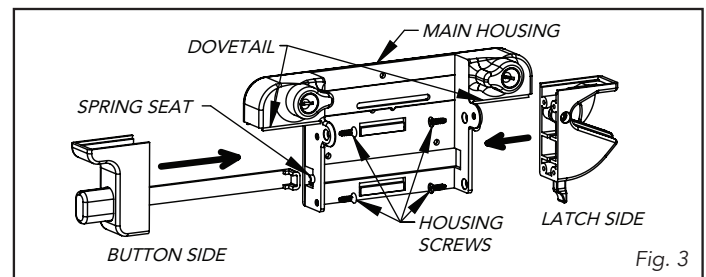
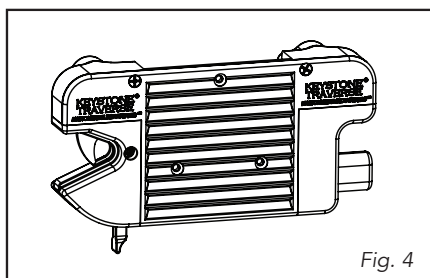

Fig. 3
Fig. 4
3. Slide the latch assembly and button assembly onto the main housing (Fig. 3) on the opposite sides, taking care to align the dovetails on the housings with the dovetails on the main housing. The button should be inserted through the hole in the main housing, and the spring should be aligned with the spring seat. Reinstall the (4) housing screws. Check the completed assembly (Fig. 4) to make sure it is now properly handed for the application (see Step 1).